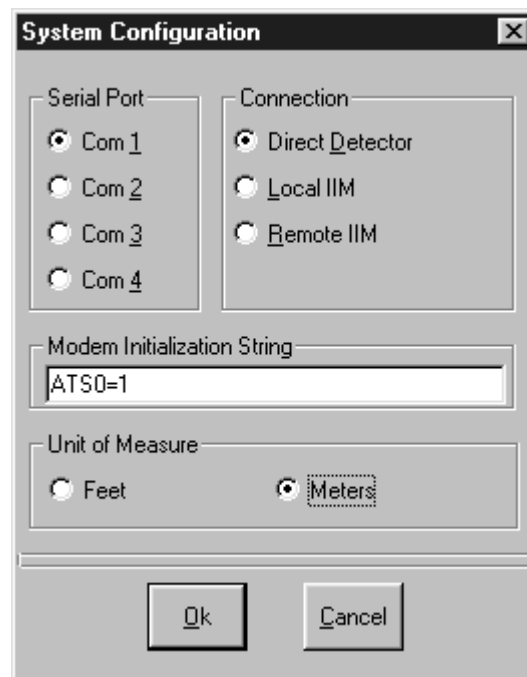

Figure 3-1. System Configuration Window
1. Select **Setup>System Computer>Configure** from the main screen. The System Configuration window opens, as shown in Figure 3-1.